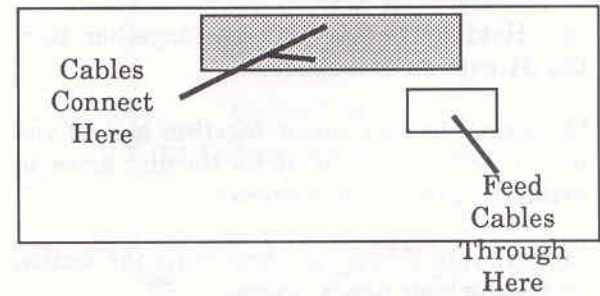

Figure 13 - The position of the RAM board in an ST/STM. Place it up against the back in the middle.
(14) If you upgrading an STM (placing the RAM board in the position shown in figure 13), you will now need to cut the middle rear pillar of the top case so that it does on go through the RAM board. This can be done using a knife or hacksaw. You should cut the pillar as close as possible to its end.
(15) Attach the earthing wire (which comes out of the RAM board at a location labelled as 'GND3') under the power board shielding top if you are upgrading an STFM or to a twist in the shielding of you are upgrading an STM.
(16) Plug in the keyboard and fold the two ribbon cables that are now attached to the XTRA-RAM so that the keyboard can be placed back into its original position with the minimum of effort. This might take some time, but don't worry, the ribbon cables can be bent and folded without damaging them.
(17) You are now ready to reassemble your ST so that you can test your installation. See the section 'Reassembling Your ST.'